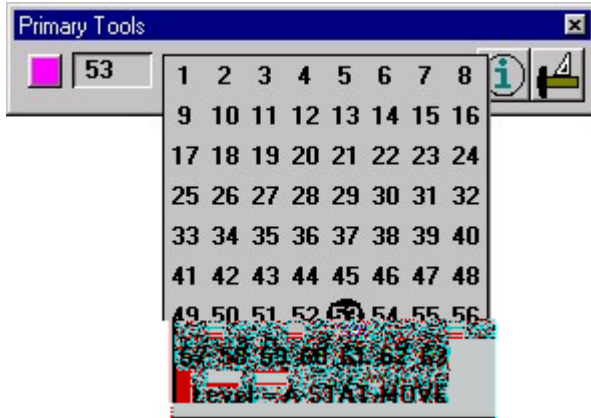

Figure 1 – Setting the active level
1. From the Primary tool bar Level option menu (Figure 1), choose the desired level.